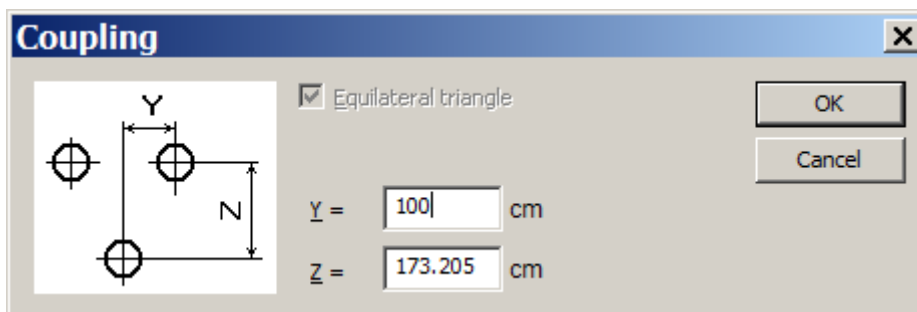

Figure 8.11 Coupling dialog box
- ⇒ In the **Coupling** dialog box (see Fig.8.11) specify  $Y = 100$  cm (if the **Equilateral triangle** check box is selected, then  $Z$  value will be calculated automatically).